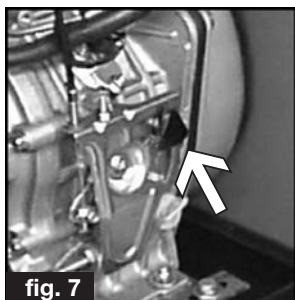

fig. 7
- 1) W180 (YANMAR engine) models: Position the accelerator handle on the engine (see fig. 7) back upwards. Wait until the engine is completely off. Turn the key to the "OFF" position.